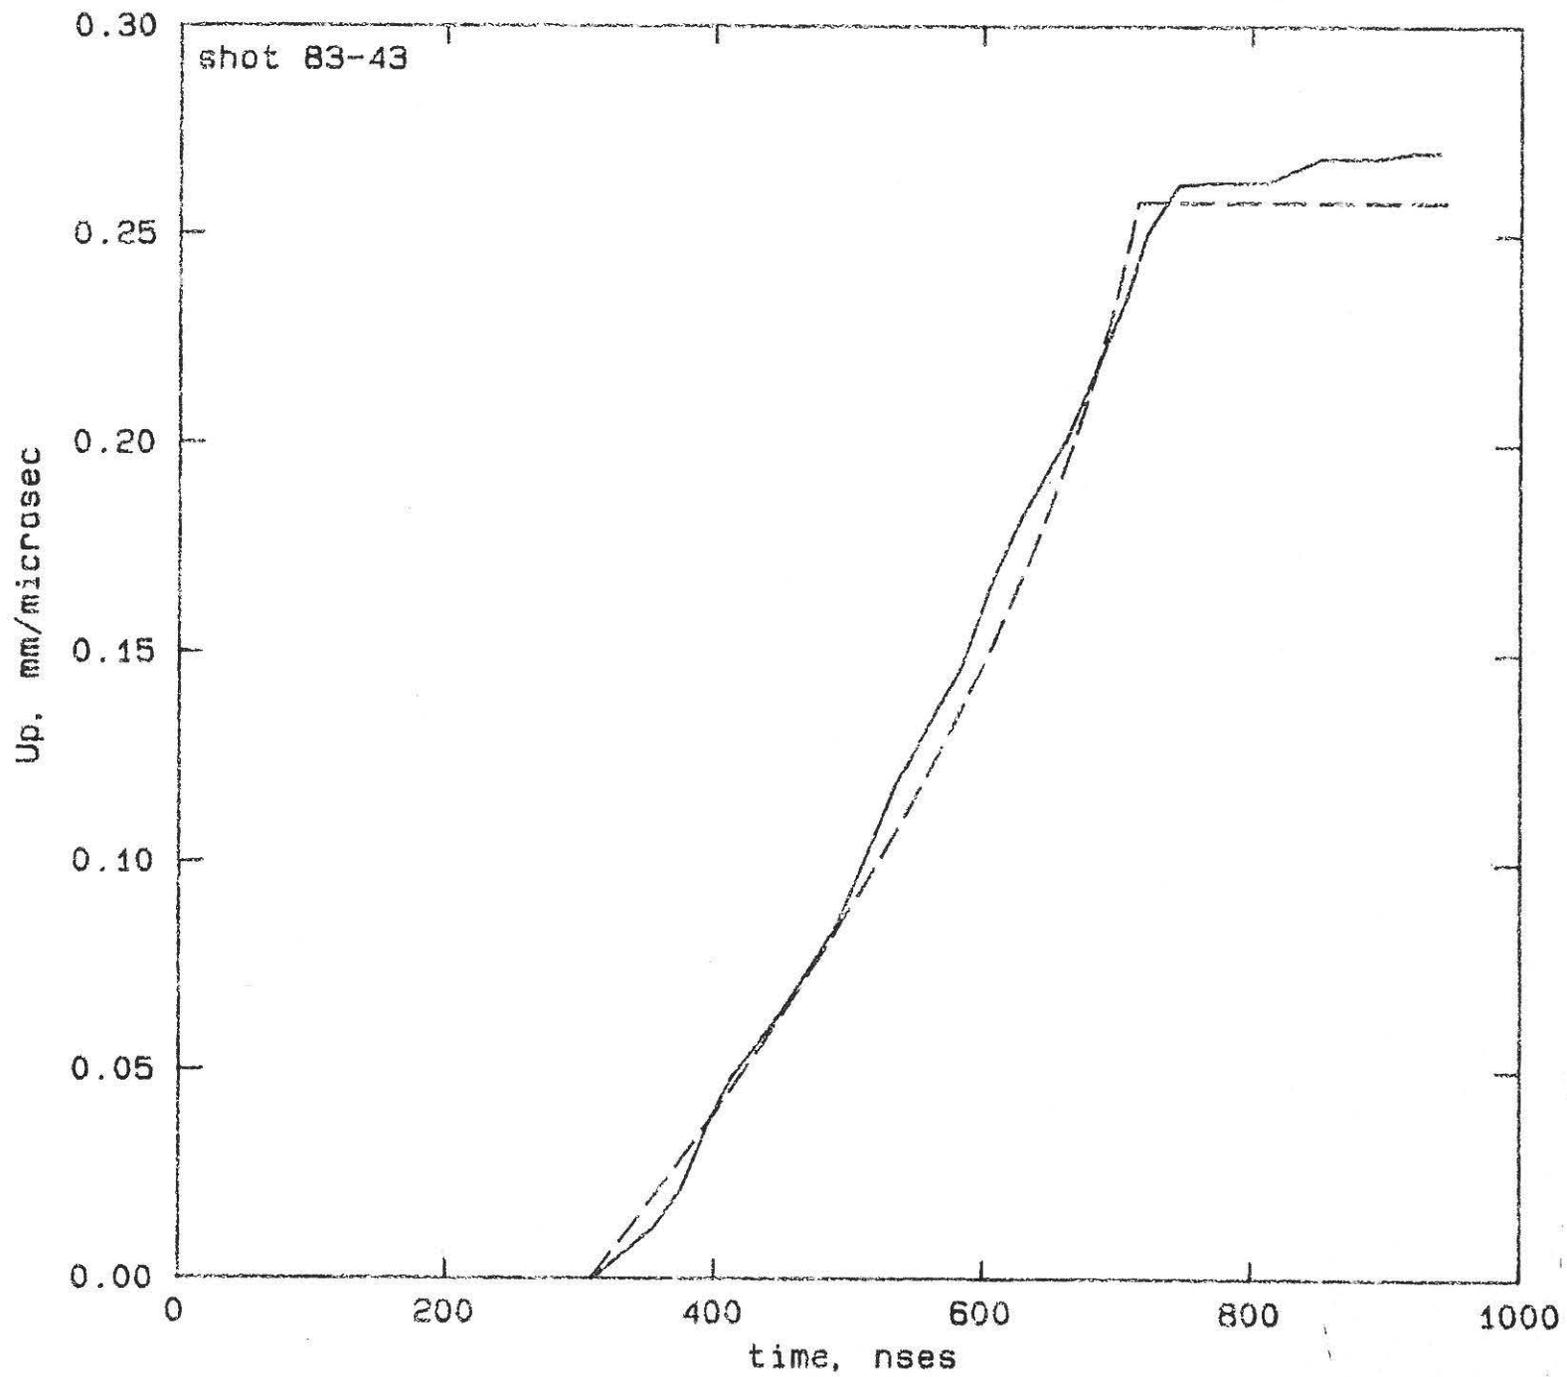

Figure 1.
Measured profiles are compared with calculated profiles in Figs. 1,2, and 3 and in Table 1. The average error in measured rise time is -0.8%. The largest error is -8%. It's unfortunate that the sources of material used in these shots were not known. The best we can say with certainty is that differences between rise time calculated from the Barker Hugoniot will not exceed 10%. It is probably true that all three samples were Dynasil 1000, in which case the average error is less than 1%, in agreement with Barker's measurement.
- Fig. 1 Measured and calculated particle velocity profiles for fused quartz. Shot No. 83-43. ————— measurements from Ref. 1. ----- Calculated from Eqs. (1) and (2). Measurements and calculations are filed in /user/ged/QTZFUSED as 83-43meas and 83-43calc, respectively. This figure can be reproduced by entering the above directory and typing "graphit -m -r -0 83-43meas 83q" (First remove the comments at the ends of the two files.)